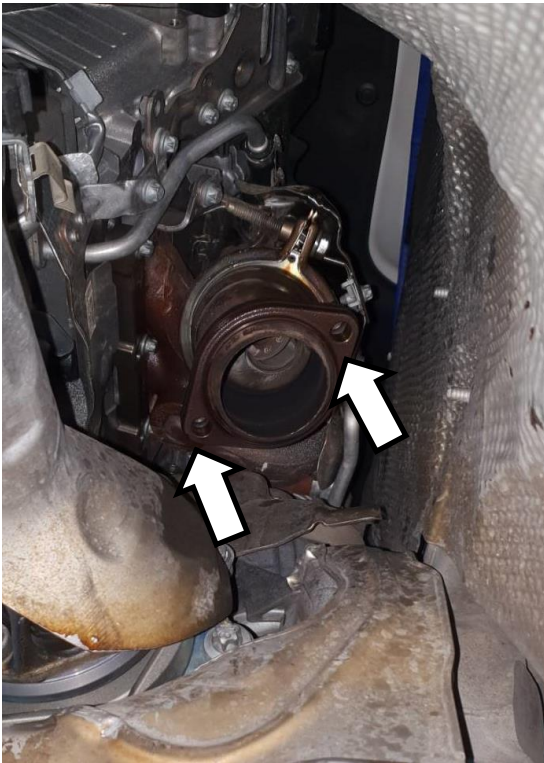

Figure 9
2. instal iPE cat pipe , And lock them with fixing screw (Figure 9、10).